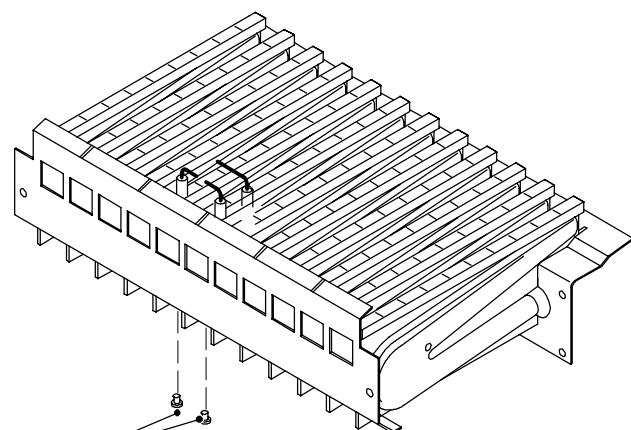

Fig. 78
- 4 Unscrew the screws A (Fig. 78) which hold the electrodes to the burner.